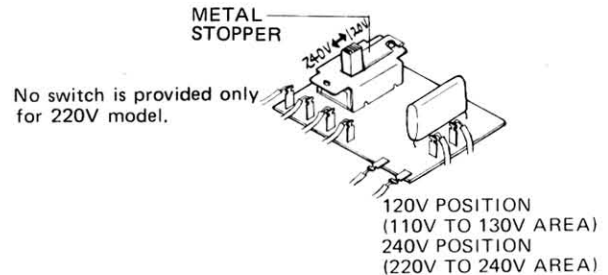

Fig. 20
2. Lift the base plate, now you can see the LINE VOLTAGE SELECTOR SWITCH and the metal stopper. Remove the screw, to free the metal stopper. Set the switch to your local line voltage, hold the switch in position with the metal stopper, and tighten the screw (Fig. 20).